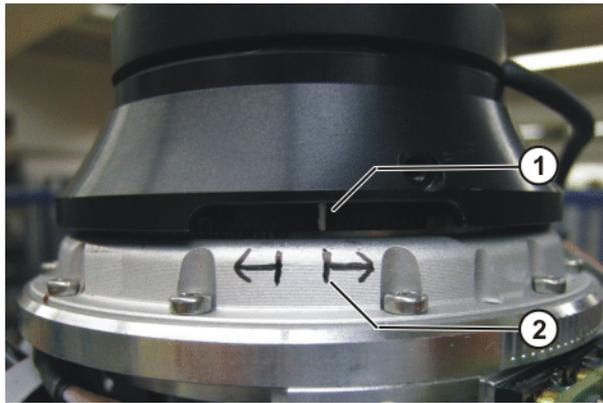

Fig. 4-29: Axis A6 – arrows indicating direction of rotation
6. Only for axis A6: manually rotate the axis in the direction indicated by the arrow beneath the mastering mark. (>>> Fig. 4-29 )